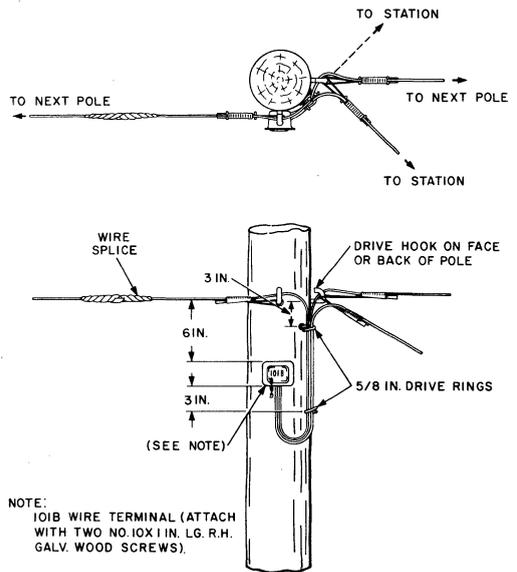

Fig. 9—Completed Party Line Tap
(3) After testing to make sure the line is not in use, cut the through drop wire about 2 feet from the first drive hook. The drop wire puller can be used to hold the wire before the cut is made.
(4) Splice a piece of drop wire to the short end of the through drop wire supported by the drop wire puller. Install a drop wire clamp on the spliced wire and place it on the new drive hook on the face or back of the pole.
(5) Place drive rings on pole and run the wire through them and terminate the two ends of the through drop wire on the binding posts of the wire terminal. Terminate the bridging drop wire in the wire terminal on top of the through wire connections. The complete party line tap is illustrated in Fig. 9.
- (1) Place a 101B wire terminal on the pole and cut the existing subscriber circuit into it.
- (2) Terminate the drop wire extension in the 101B wire terminal to make the bridging connection.
- (3) Splice out the existing drop loop and terminate it in the wire terminal. The complete arrangements are similar to those shown in Fig. 9.